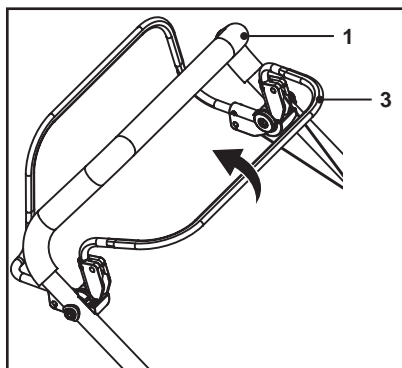

Fig. 12
1. Pull back the brake lever (3) and hold it against the upper handle bar (1) when starting the engine. Keep it squeezed during operation (Fig. 12).
2. Release the brake lever (3) to stop the engine.
1. Pull back the brake lever (3) and hold it against the upper handle bar (1) (Fig. 12).